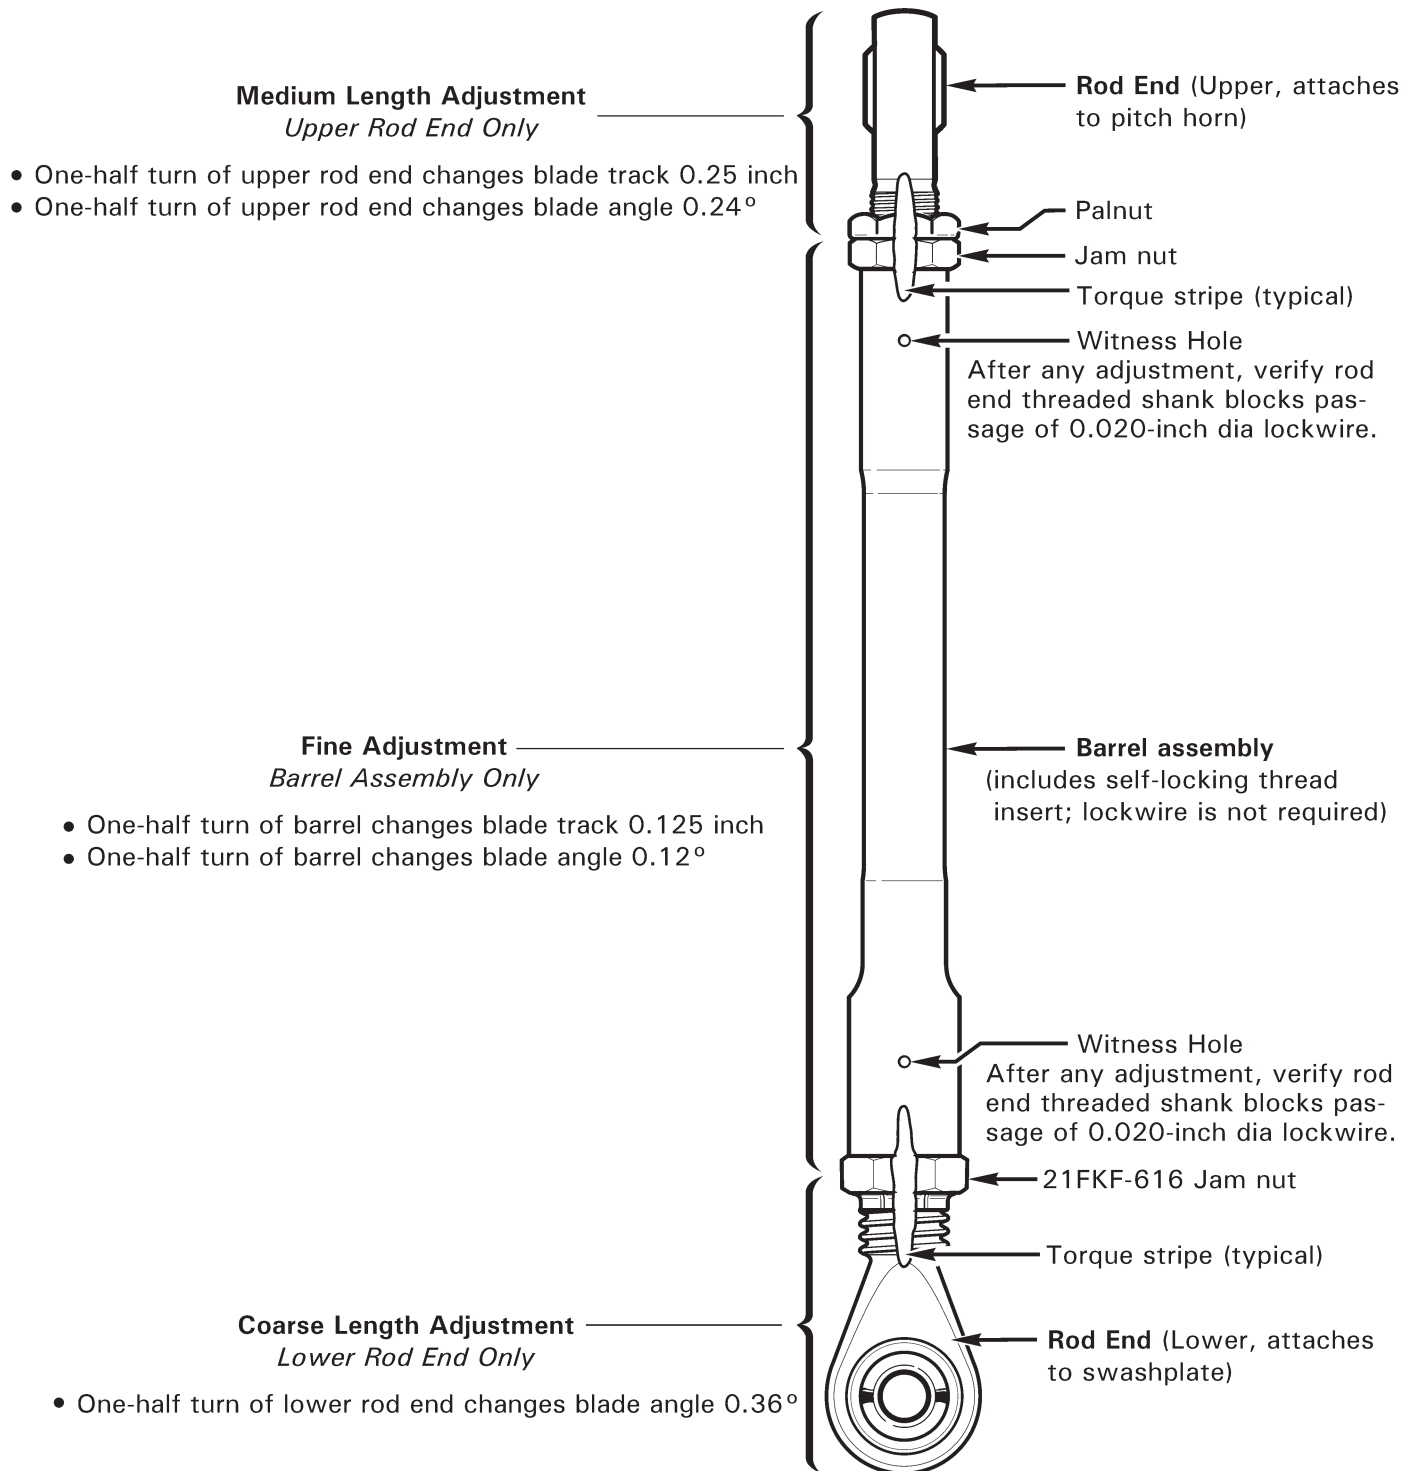

FIGURE 10-12A A258-5 MAIN ROTOR PITCH LINK
- i. Refer to Figure 10-12A. Using backup wrench on barrel assembly, loosen 21FKF-616 nut at lower rod end, and upper rod end palnut and jam nut.
- a. Refer to Figure 10-12A or 10-12B. Using backup wrench on barrel assembly or fitting, loosen upper rod end palnut and jam nut. Remove hardware securing rod end to pitch horn.
- i. Refer to Figure 10-12A. Using backup wrench on barrel assembly, loosen 21FKF-616 nut at lower rod end. Remove hardware securing lower rod end to swashplate.